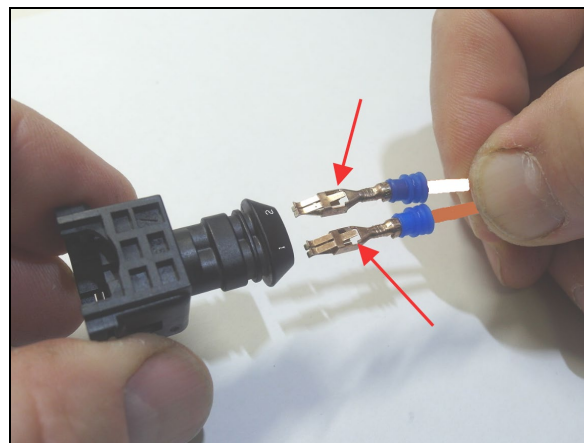

FIGURE 50
95. Make sure the locking tabs on the terminals are oriented with the connector as shown in Figure 50.